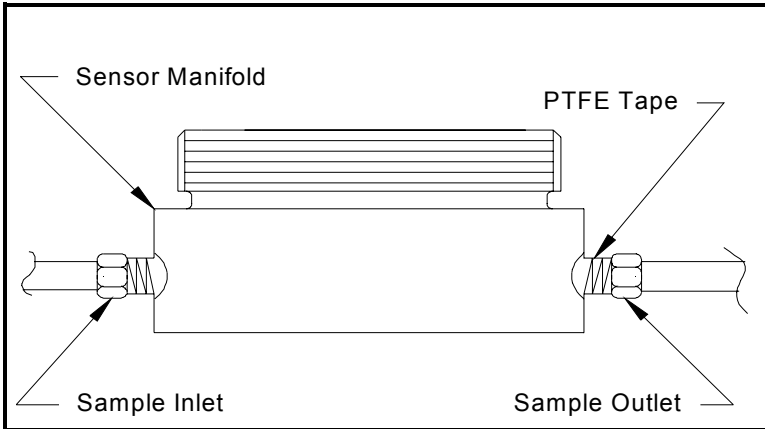

Figure 4: Sensor Manifold Installation
2. Using PTFE tape as a sealant, connect the sample gas inlet and outlet to the 1/8" NPT ports on the sensor manifold (see Figure 4 below). Either port may be used as the inlet or the outlet; the direction of flow does not matter.
5. Open the airtight package (see Figure 4 on page 5) and remove the oxygen sensor from the package. To maintain the oxygen sensor's energy level, remove the red grounding tab and **immediately** proceed to the next step.